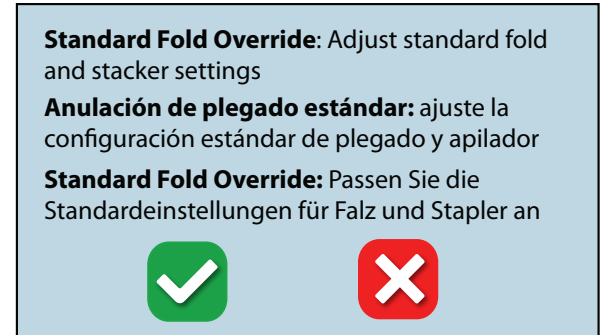

Fig. 26
2. “Standard Fold Override” warning will be displayed (Fig. 26).